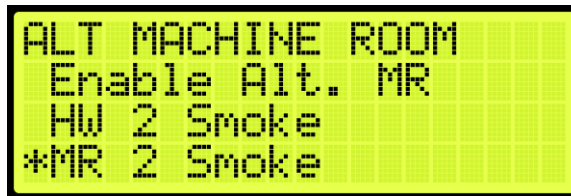

Figure 612: ALT MACHINE ROOM Menu – MR 2 Smoke
3. From the ALT MACHINE ROOM menu, scroll and select MR 2 Smoke (See Figure 612).